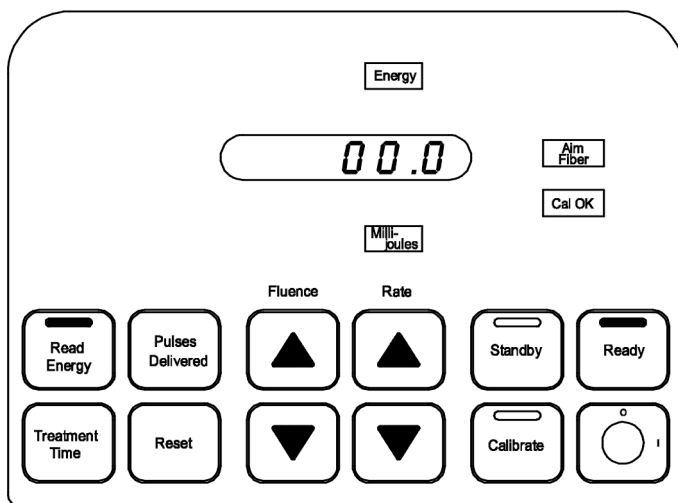

**Figure 11**
7. While the Excimer Laser System is lasing, the total treatment time is stored. To retrieve the treatment time, stop lasing and depress the **Treatment Time** button. The **Min/Sec** indicator light illuminates and the total treatment time is visible in the display window. (Figure 11)